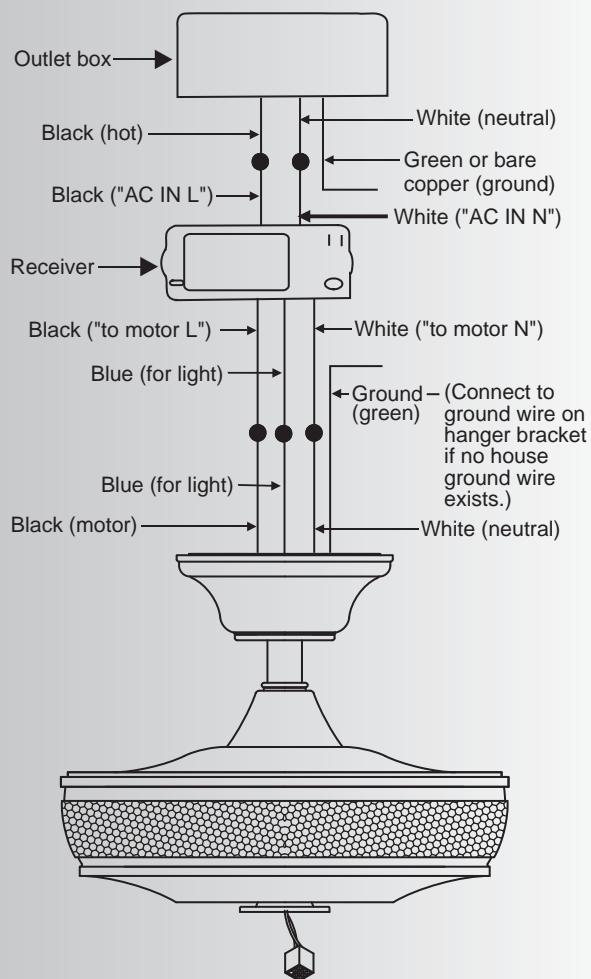

Fig. 14
Step 2. Motor to Receiver Electrical Connections: (Fig. 14)
Step 3. (Fig. 14) Receiver to House Supply Wires Electrical Connections:
Step 4. (Fig. 14) If your outlet box has a ground wire (green or bare copper) connect it to the fan ground wires; otherwise connect the hanging bracket ground wire to the mounting bracket. Secure the wire connection with a plastic nut provided. After connecting the wires, spread them apart so that the green and white wires are on one side of the outlet box and black and blue wires are on the other side. Carefully tuck the wire connections up into the outlet box.